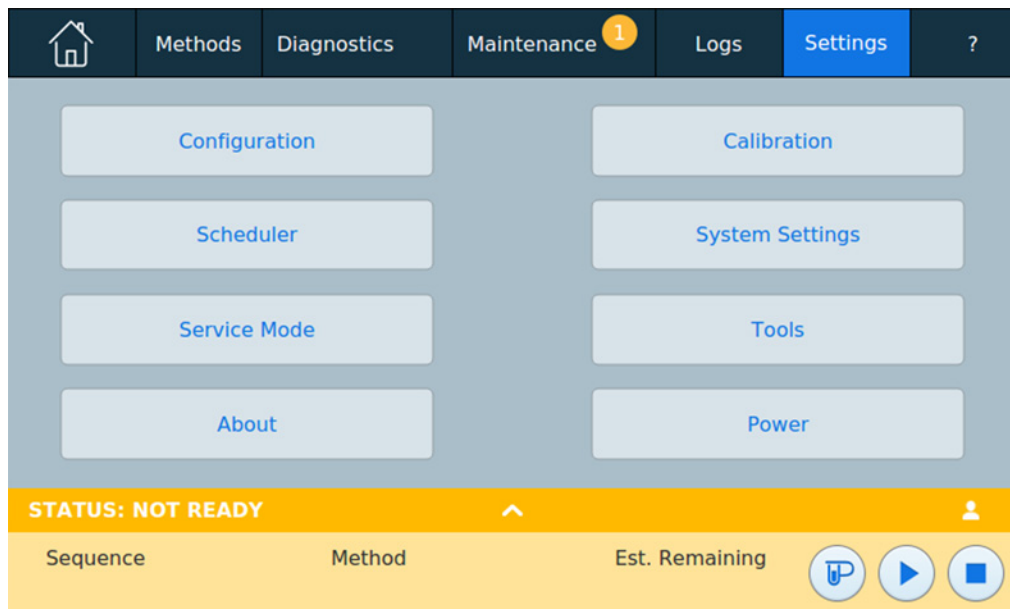

Figure 63 Settings view
- 1 Press Settings on the touch screen control ribbon. The Settings view appears. See Figure 63.